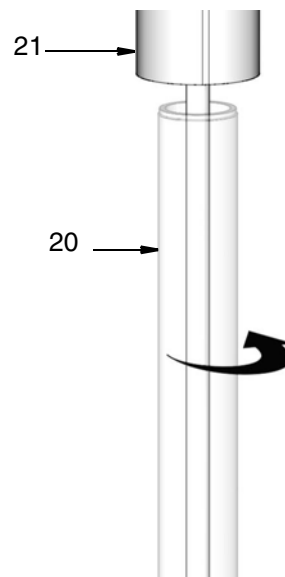

FIG. 12
6. Apply a thin layer of grease to piston seal (22\*). Reinstall down tube (20) into pump base (21). Torque to 100 to 150 ft-lb (135.6 to 203.4 N•m) (FIG. 12).